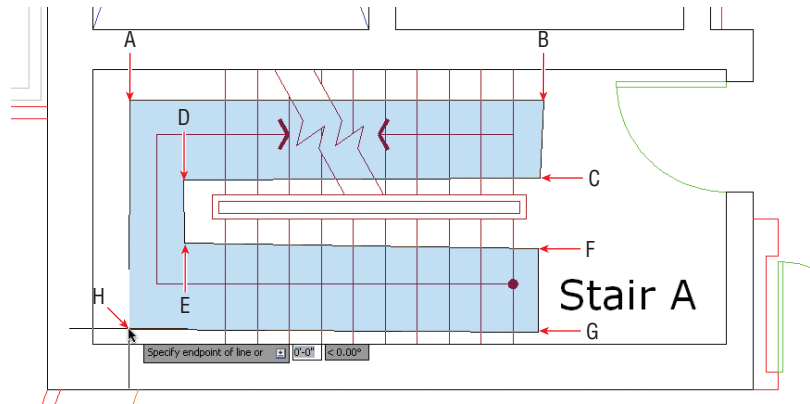

FIGURE 4.6 Drawing a polygonal implied window to create a selection set
4. Click points B through H, as shown in Figure 4.6. The transparent blue polygon you are drawing functions the same as an implied rectangular window; the difference is the polygonal window offers more flexibility because you can shape it. Only those objects completely contained within the borders of the blue window will be selected.